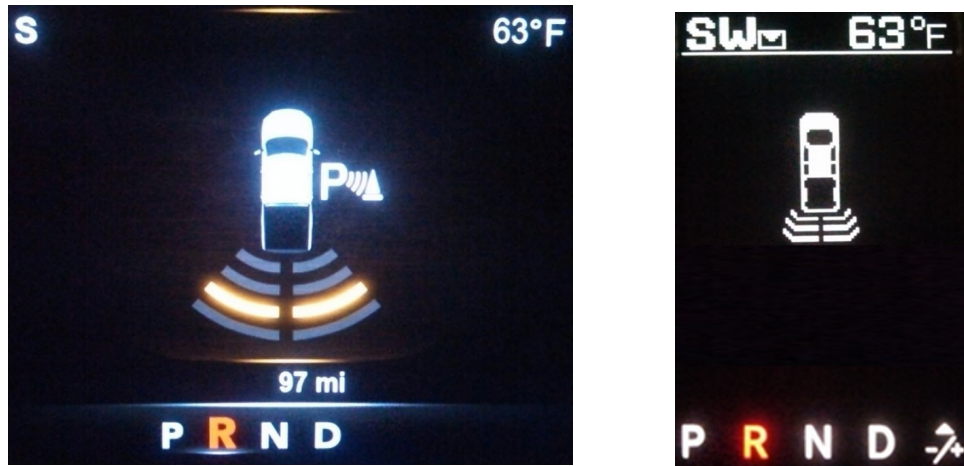

Figure 13: Cluster Graphic with object detected
If the system detects an obstructions behind the vehicle (audio chime(s) and bar(s) behind vehicle displayed in instrument cluster **Figure 13**), verify that there are no obstructions within 2.5 meters of the rear of the vehicle. If no obstructions are present, review sensor installation to ensure sensors are installed within the guidelines provided.
3. With the vehicle in park, place a sizable object 1 meter away from the sensors centered behind the vehicle. The minimum object size is a 1 meter high pole 10 cm in diameter. With an object now behind the vehicle, brake on, put the vehicle in reverse, and confirm that the ParkSense System detects the object immediately upon entering reverse gear. The graphic in the instrument cluster should now have bars behind it, **Figure 13**, and an audible chime should be heard.